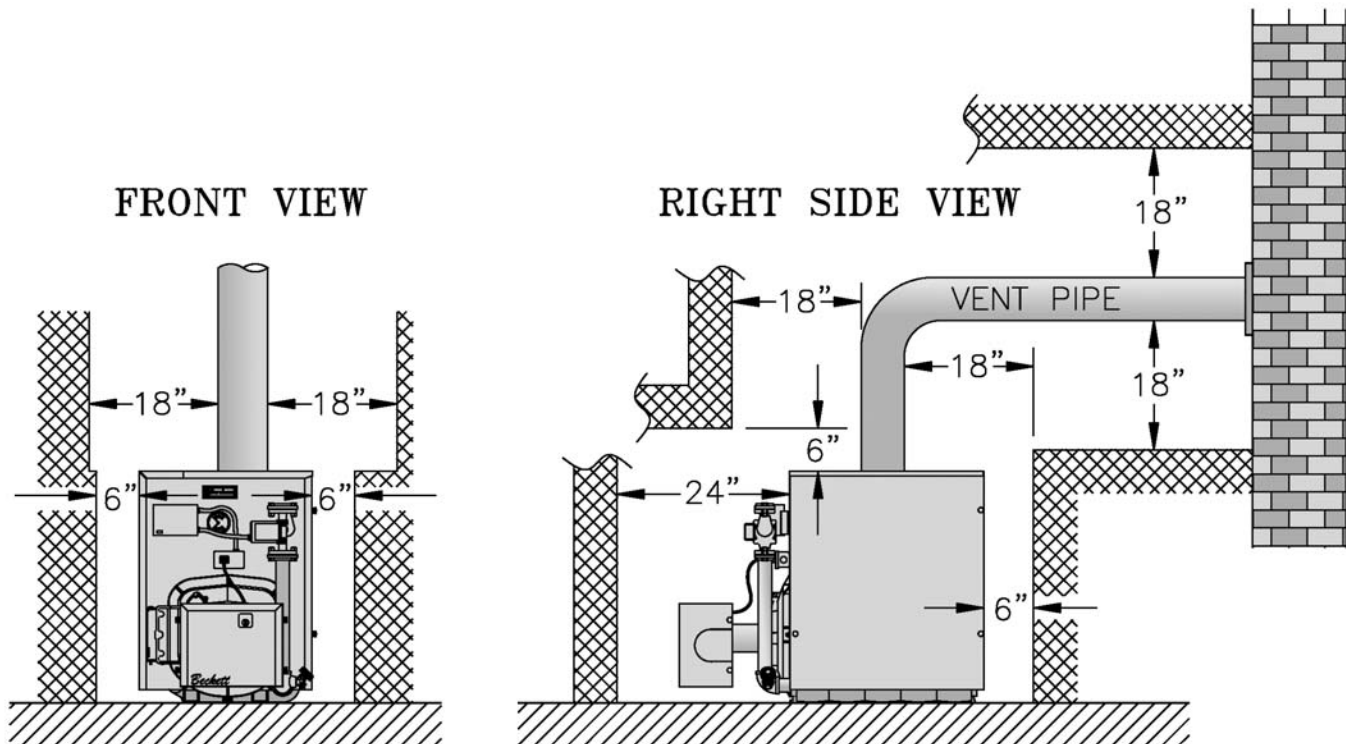

Figure 2: Minimum Installation Clearances To Combustible Materials (Inches)
5. For minimum clearances to combustibles. See Figure 2.